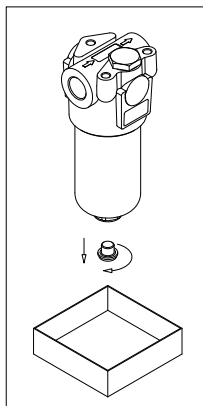

fig. 11
- (Fig. 11) If provided, unscrew the drain plug after placing a vessel to collect the operating fluid